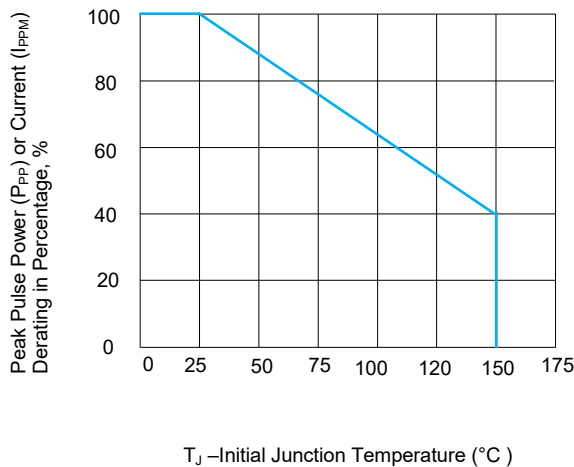
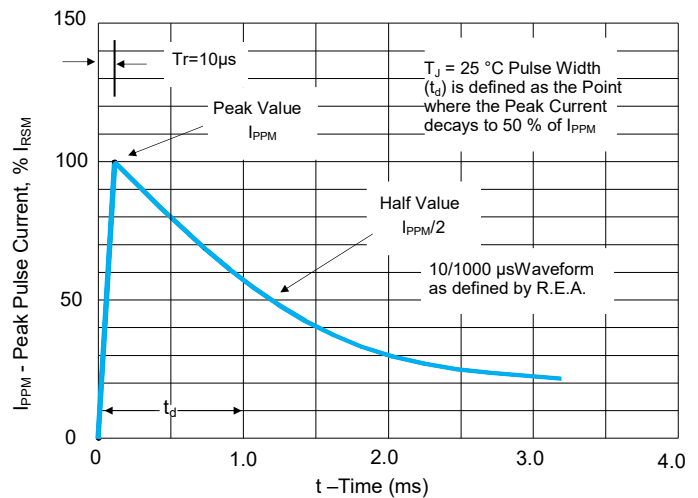

FIGURE 3 Peak Pulse Power Derating Curve
FIGURE 4 Pulse Waveform
1. Non-repetitive current pulse, per Fig. 4 and derated above T_J(initial)=25 °C per Fig. 3.